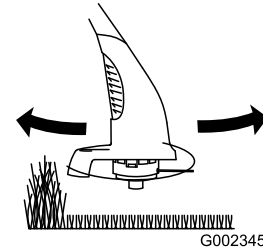

Figure 8
- Slowly move the trimmer in and out of the area being cut (Figure 8).